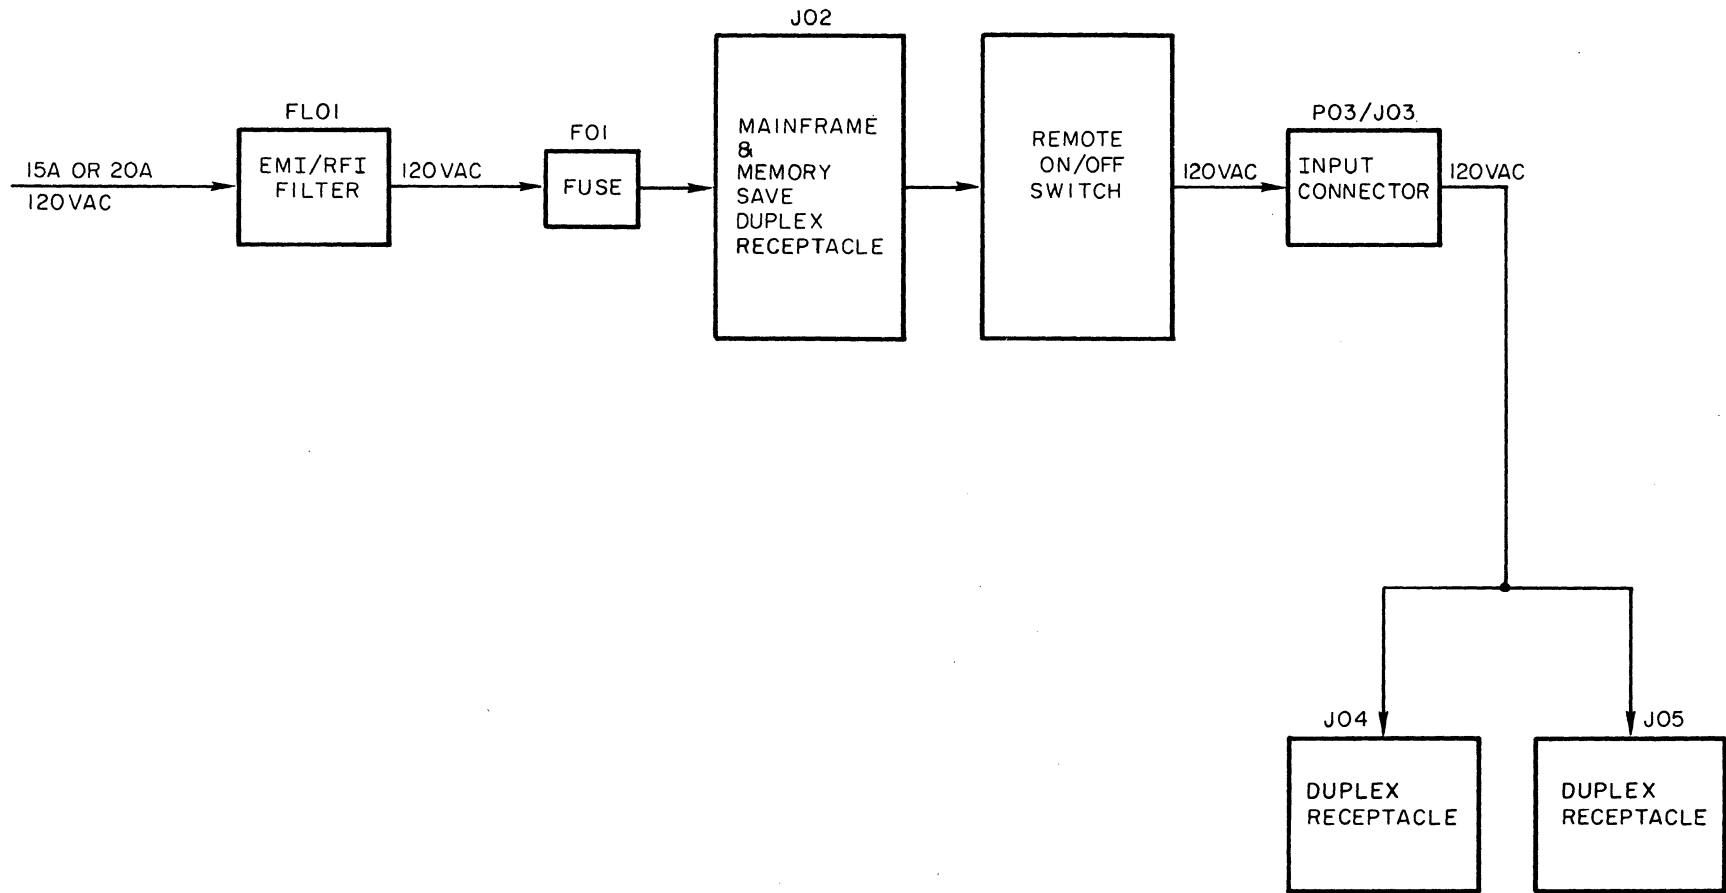
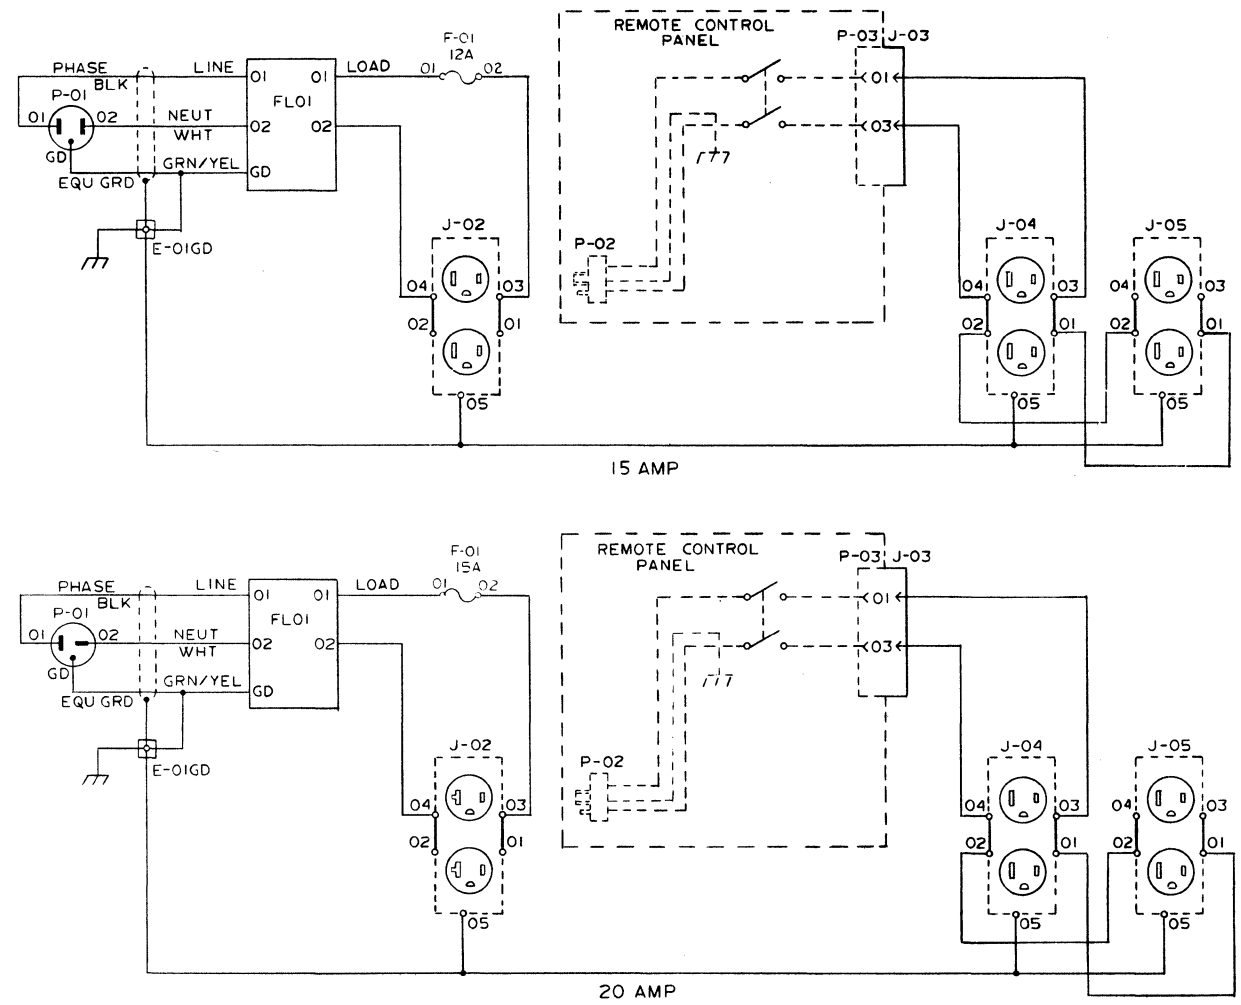

Figure 5-37 Power Distribution Unit, 15/20A, BPDU615A/BPDU620A Block Diagram
Figure 5-39 Power Distribution Unit, 60-Hz, 15/20A, BPDU615A/BPDU620A Schematic
As shown in Figure 5-37 primary power enters the PDU via a three-conductor cable carrying a phase wire, neutral, and safety ground. The free end of this cable terminates in a three-pole male connector. The cord enters the front panel of the PDU through a compression clamp and is hard-wired to the single-phase EMI/RFI filter. The phase and neutral outputs from the filter are in turn hard-wired through F01 to a duplex receptacle (J02). One of the J02 receptacles is for the memory save power supply and the other is connected to the two-pole on/off switch on the remote operator's control panel by a three-conductor cable (see Figure 5-39). The cable is hard-wired to the on/off switch with one lead being connected to ground. Switched phase and neutral wires are returned from the switch to J03 on the PDU. From J03 the phase wire is connected in series with duplex receptacles J04 and J05. Fuse (F01) is rated at 12 amperes for a 15A PDU and 15 amperes for a 20A PDU. Both J04 and J05 are connected to a common neutral and common safety ground.
- Figure 5-39 Power Distribution Unit (BPDU615A and BPDU620A) Schematic - 15A, 20A, 60-Hz